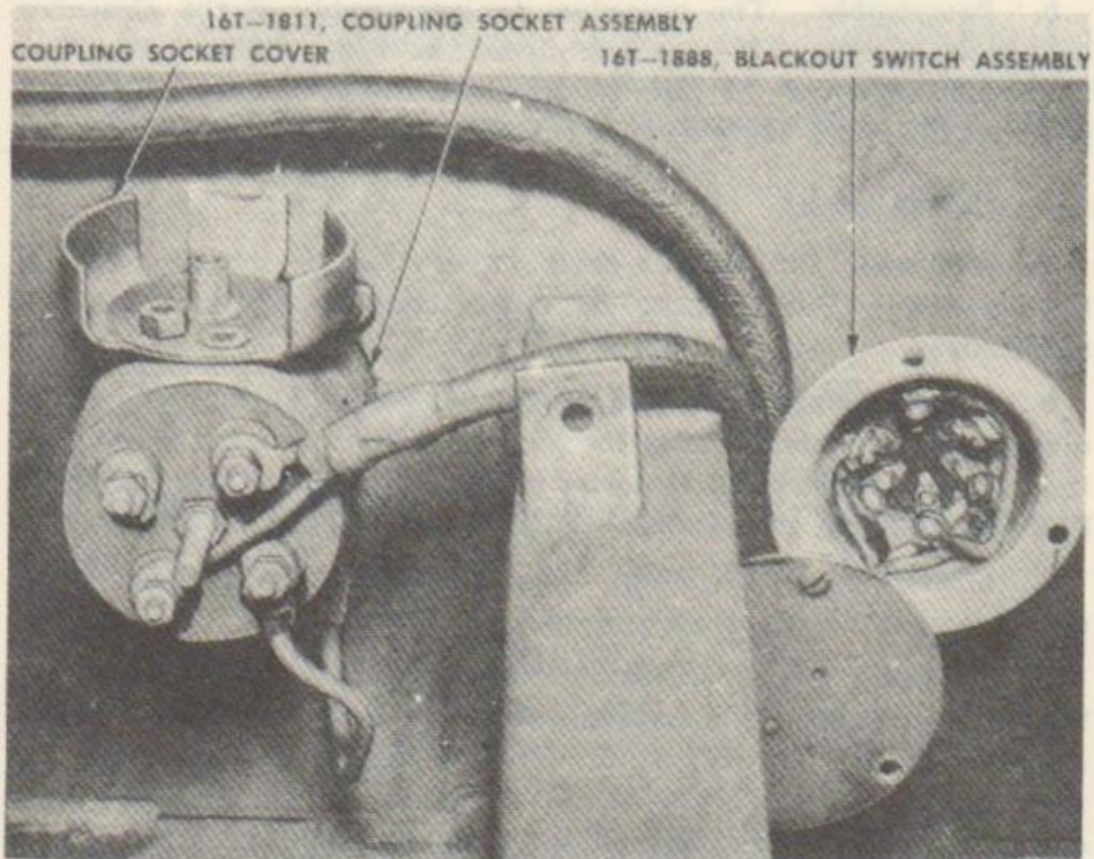

FIGURE 68. COUPLING SOCKET AND BLACKOUT SWITCH
a. Removal (fig. 68). Open tool compartment. Remove the two stove bolts holding guard to members. Remove the guard. Remove nut and lock washer from stud, and remove the cover. Disconnect each wire from terminals. Remove the four bolts holding coupling socket to trailer crossmember and remove the coupling socket.
b. Installation (fig. 68). Place ends of wires through hole in side of switch. Fasten the wires to the terminal. See wiring diagrams, figures 61, 62, 63, or 64. Secure cover to switch using three bolts. Place the switch through the hole in crossmember and install lock washer and nut. Check lighting operations, then install guard over the switch.